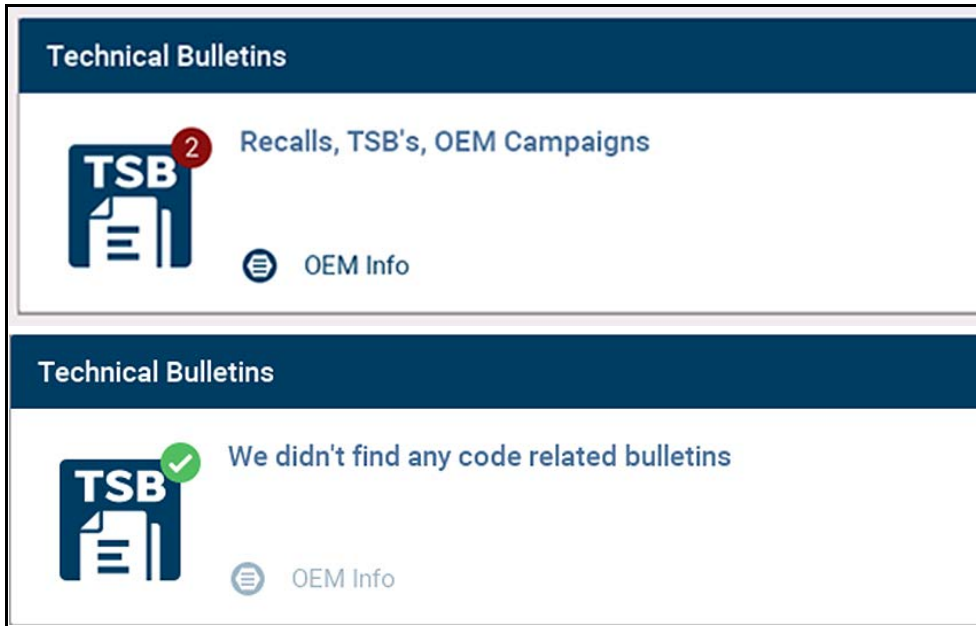

Figure 6-10
The Technical Bulletins card (*Figure 6-10*) provides a quick link to available OEM Recall, TSB and Campaign information that is code related.
- A red icon (*Figure 6-10*) indicates the total number of Recalls, TSBs, and OEM Campaigns that have been found. Green check mark indicates no TSS's were found.